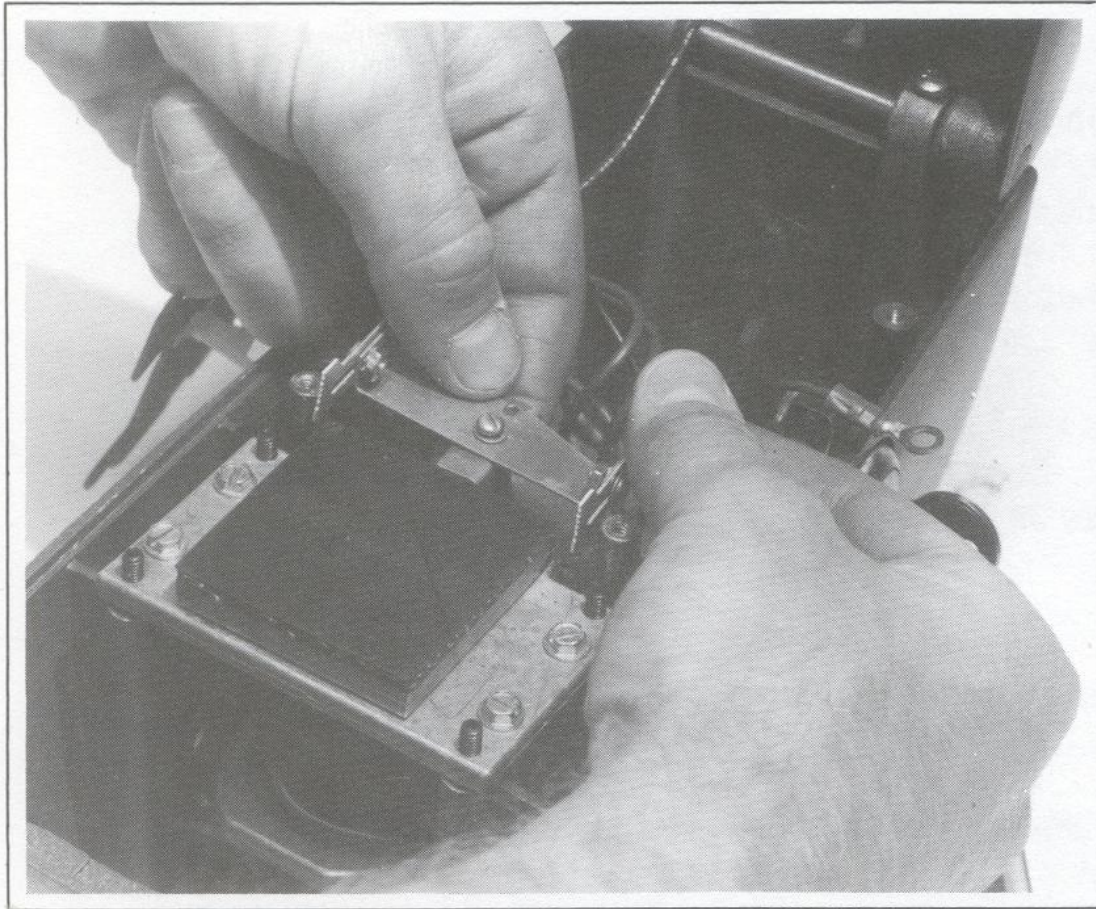
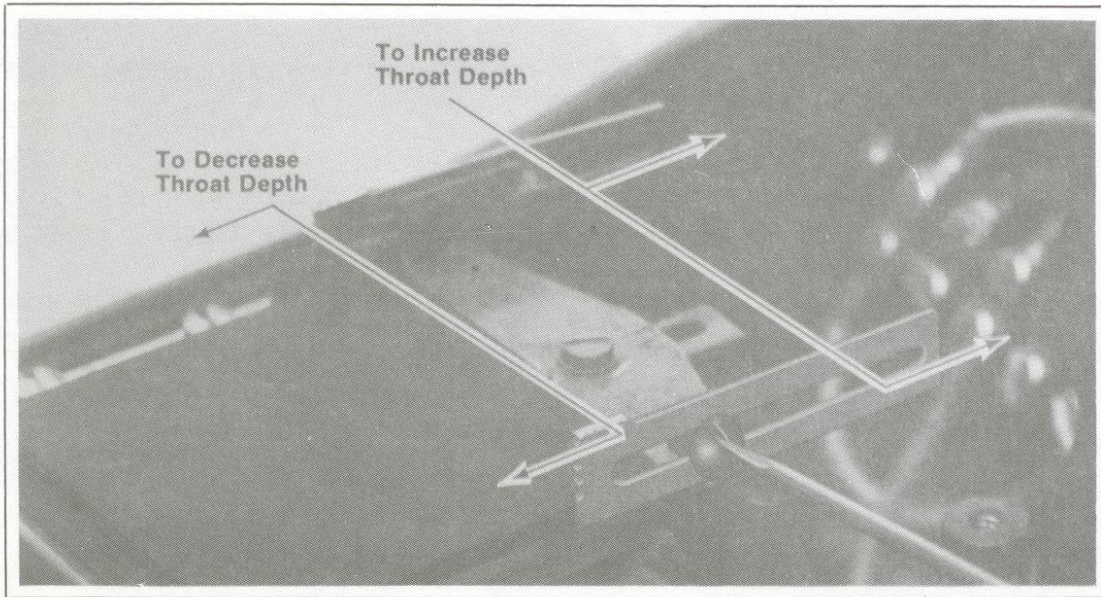

Figure 9
Figure 10
Obtaining a throat depth of less than 1-3/16" requires an extended trigger (*figure 9*). (Unless you stock this part, it must be specially ordered). The trigger extension support replaces the standard trigger top. The trigger extensions, which reach toward the front of the machine, are then adjusted as desired (*figure 10*).
5. Still holding the nut and washer, place the extension support on the trigger. Insert screw and secure the assembly (*figure 9*).
6. Adjust for depth as shown in *figure 10*.